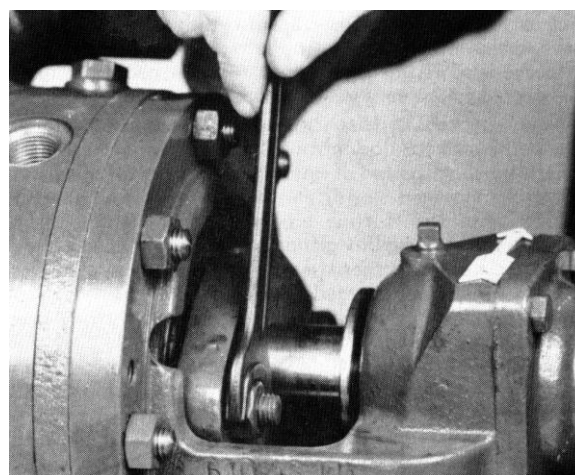

Fig. 19 - Tightening the stuffing box gland
The inserted packing rings should then be compressed moderately with the aid of the stuffing box gland (452) and of the nuts (see Fig. 19). Then the nuts should be slackened again by one to two complete turns, and there-after tightened lightly by hand. The correct and even seating of the stuffing box gland (452) should be checked when the pump is subjected to suction pressure, by inserting a feeler gauge between the gland (452) and the shaft protecting sleeve (524.1/.2).
A newly packed stuffing box should leak profusely at first. If this leakage does not cease of its own accord after a relatively short period of operation, the nuts on the gland should be tightened slowly and evenly while the pump is running until the stuffing box only drips slightly. Make sure that the stuffing box glands (452) are tightened evenly and not askew, as otherwise the shaft protecting sleeves (524.1/.2) might be damaged (see Fig. 19). The leakage rate in service of a soft-packed stuffing box should amount to 3 to 5 liters/hour approx.